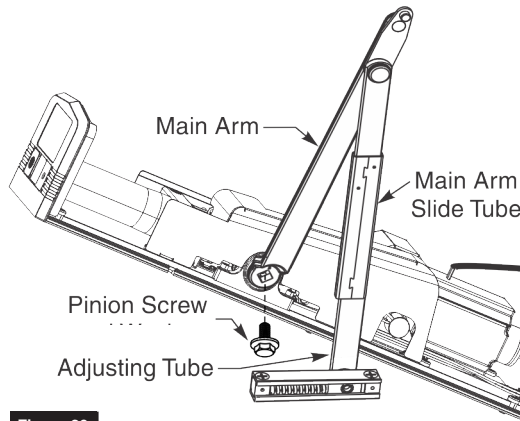

Figure 20
- With door open, slide main arm slide tube into adjusting tube. (Figure 20)
- Place square of main arm onto closer pinion. (Figure 20)
- Attach main arm to pinion with screw then tighten with 7/16" wrench. (Figure 20)